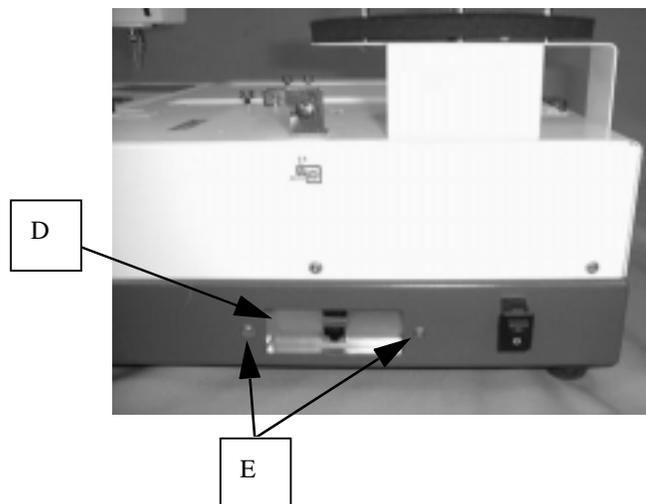

FIGURE 7-3
I. Replace the connector fixing plate by removing 2 bind screws 4x6.5 (E) Fig.7-3